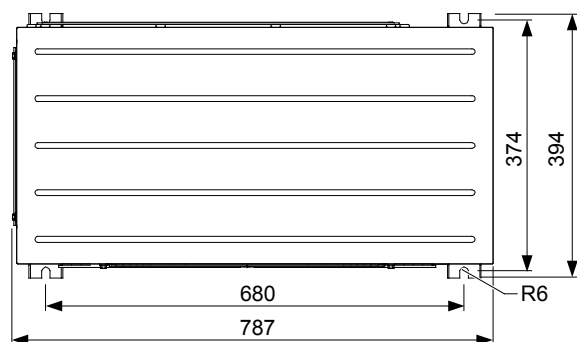
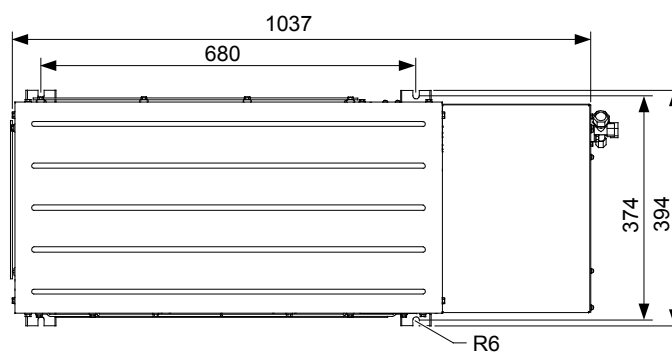

Figure 2-15 Installation hole dimensions of standard outdoor unit base (top view, unit: mm)
Figure 2-16 Installation hole dimensions of Low-Temp outdoor unit base (top view, unit: mm)
- Secure the outdoor unit onto the base with expansion bolts. The installation hole size of the base is shown in Figure 2-15 and Figure 2-16.